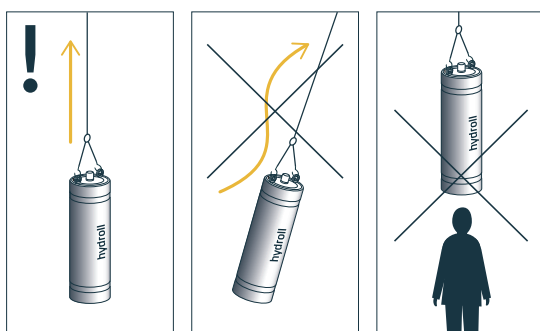

FIGURE 5.1 Hoisting points
5. Hoisting points: In case accumulator has two threaded holes (M12) at each end of the accumulator to enable the mounting of lifting eyes or hoisting rings. See figure 5.1